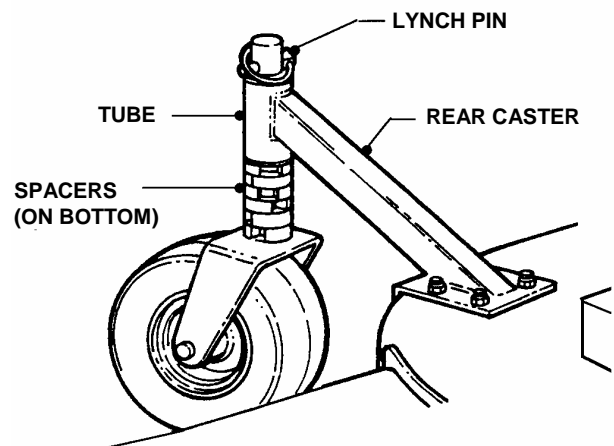

FIGURE 2
STEP 2: Adjust Rear Casters to lowest position by removing Lynch Pins and placing Spacers on bottom side of Tube. See Figure 2.